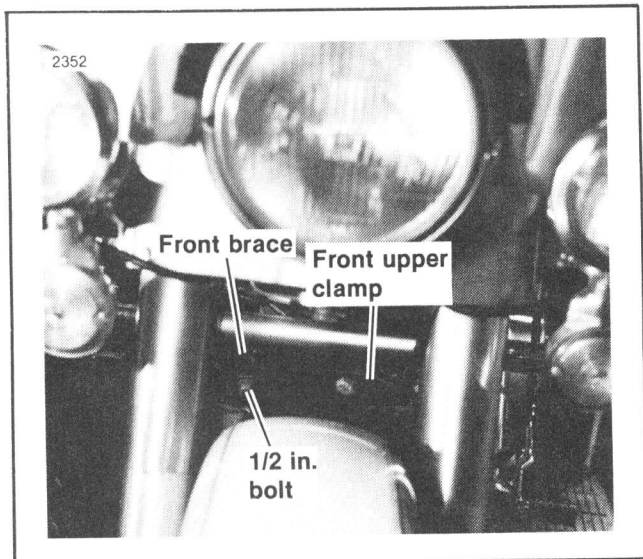

Figure 6-9. Front Brace Connection
6. See Figure 6-9. Connect front brace to front upper clamp with 1/2 in. diameter bolt, small flat washer, large flat washer, and elastic locknut. Nut and large washer should be to rear of motorcycle. Snug up bolt and nut, but do not tighten.
3. See Figure 6-9. Disconnect front cross brace from upper clamp. We recommend a second person hold the motorcycle to keep it from falling over when disconnecting sidecar.